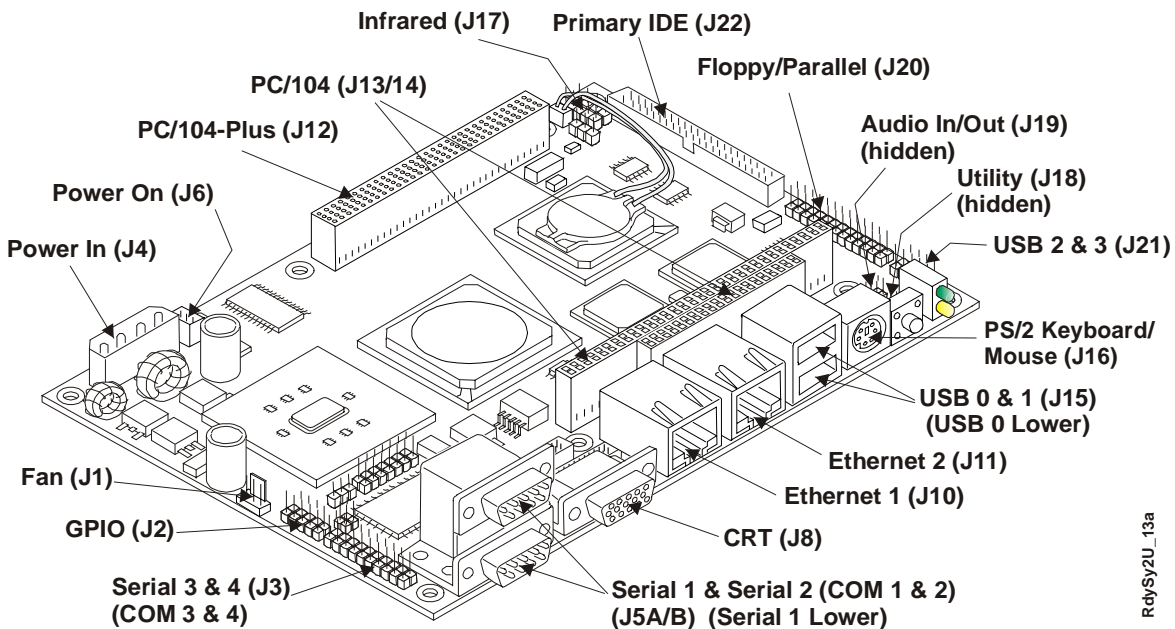
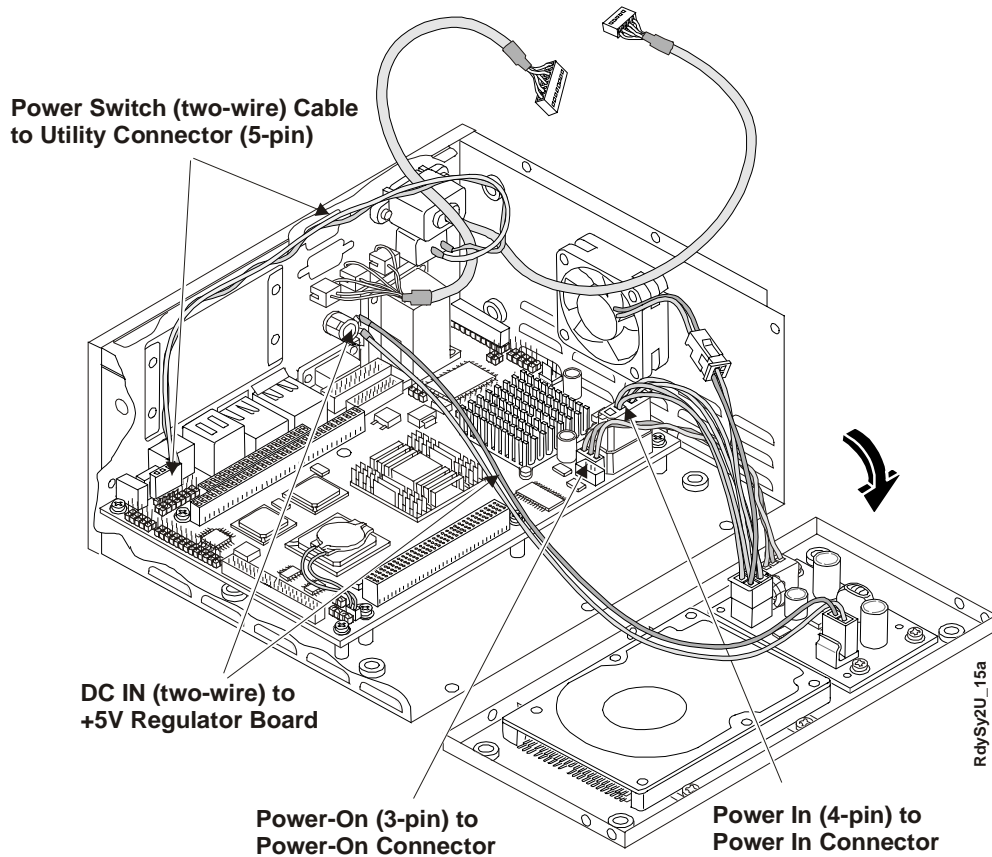
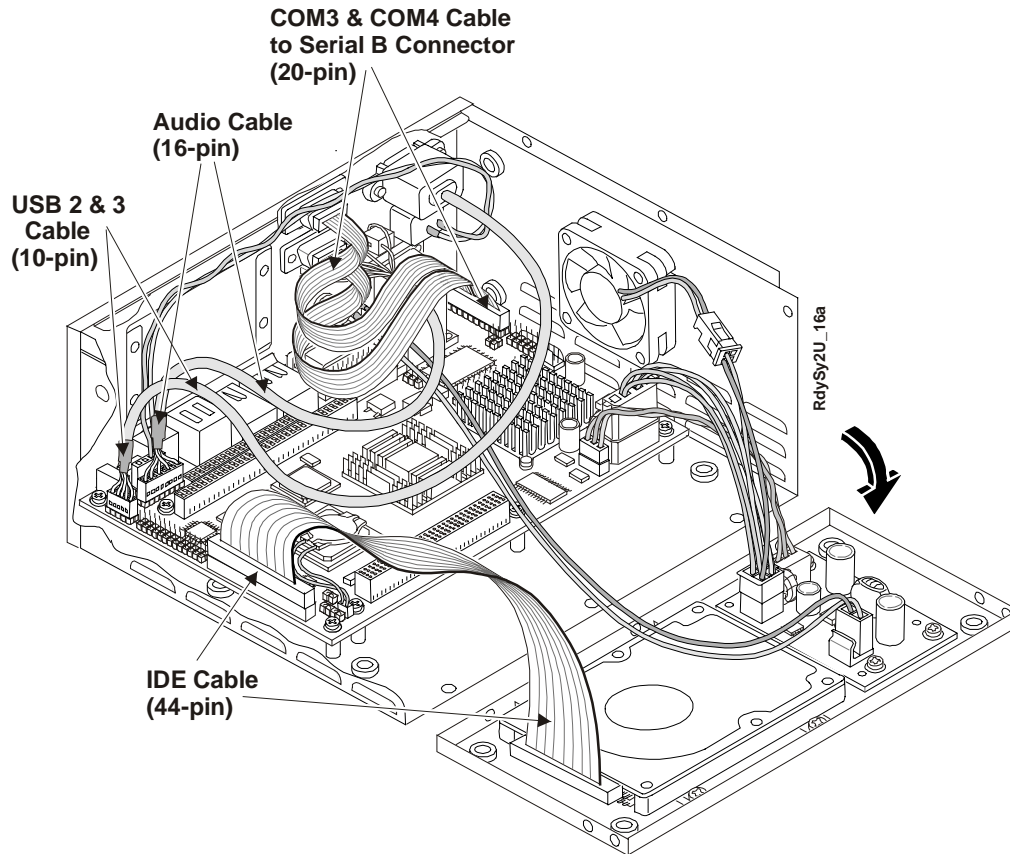

Figure 2-10. Connector Locations (Typical ReadyBoard)
Figure 2-12. Installing Power Cables
Figure 2-13. Installing Audio, USB, and COM Cables
1. Connect the Power Switch (two-wire) cable to the Utility connector (pins 1 & 2 on J18) on the ReadyBoard, matching the red wire with pin-1. See Figures 2-10, 2-11 and 2-12.
2. Connect the Power In cable to the Power In connector (J4). See Figures 2-10, 2-11 and 2-12.
3. Connect the Power On cable to the Power On connector (J6) on the ReadyBoard, as shown in Figure 2-12. See Figures 2-10 and 2-11.
4. Connect the DC In cable to the +5 volt Regulator board. See Figure 2-12.
1. Connect the COM3 & COM4 cables to the Serial B connector (J3) on the ReadyBoard, as shown in Figure 2-13. See Figures 2-10, 2-11 and 2-13.
2. Connect the USB2 & USB3 cable to the USB2 & USB3 (10-pin) connector (J21) on the respective ReadyBoard. See Figure 2-13.
3. Connect the Audio cable to the Audio In/Out (16-pin) connector on the respective ReadyBoard. See Figure 2-13.
4. Connect the IDE cable to the IDE connector (J22). See Figures 2-10, 2-11 and 2-13.
- ◆ If you also disconnected the IDE cable from the hard disk drive (HDD) earlier, then connect it to the IDE connector on the HDD. The red strip on the cable should match with pin-1 on the HDD and is typically located next to the jumper settings on the HDD. See Figure 2-13.